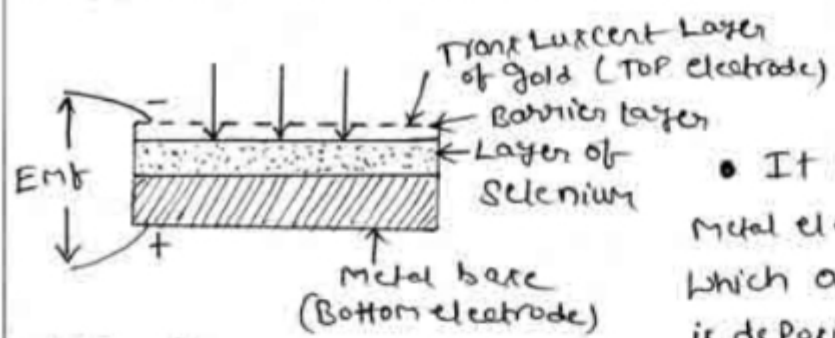

Fig 16: Photo Voltaic transducer (Selenium) cell
- It consists of a metal electrode (bottom) on which a layer of Selenium is deposited, on the top of this a barrier layer is formed which is coated with a very thin layer of gold. (Fig 16)